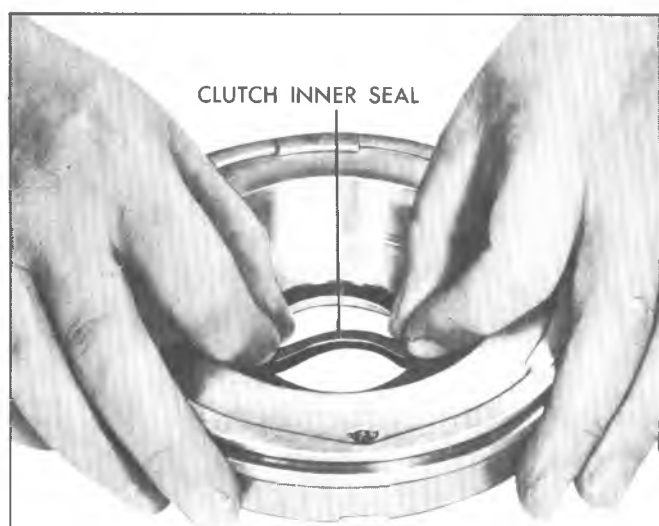

Fig. 84T--Installing Direct Clutch Inner Seal
1. Install a new inner clutch piston seal on piston with lip facing away from spring pockets (fig. 84T).